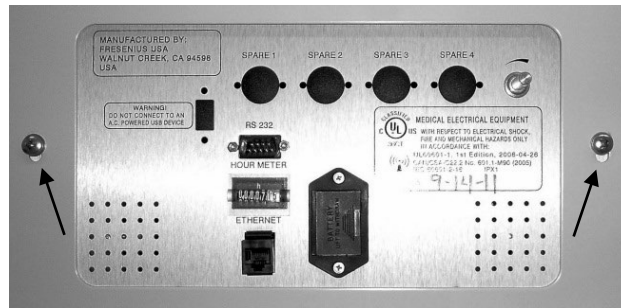

Figure 2
- Remove the two (2) screws securing the card cage into the cabinet (see Figure 2). Slide the card cage out the front of the cabinet a few inches.